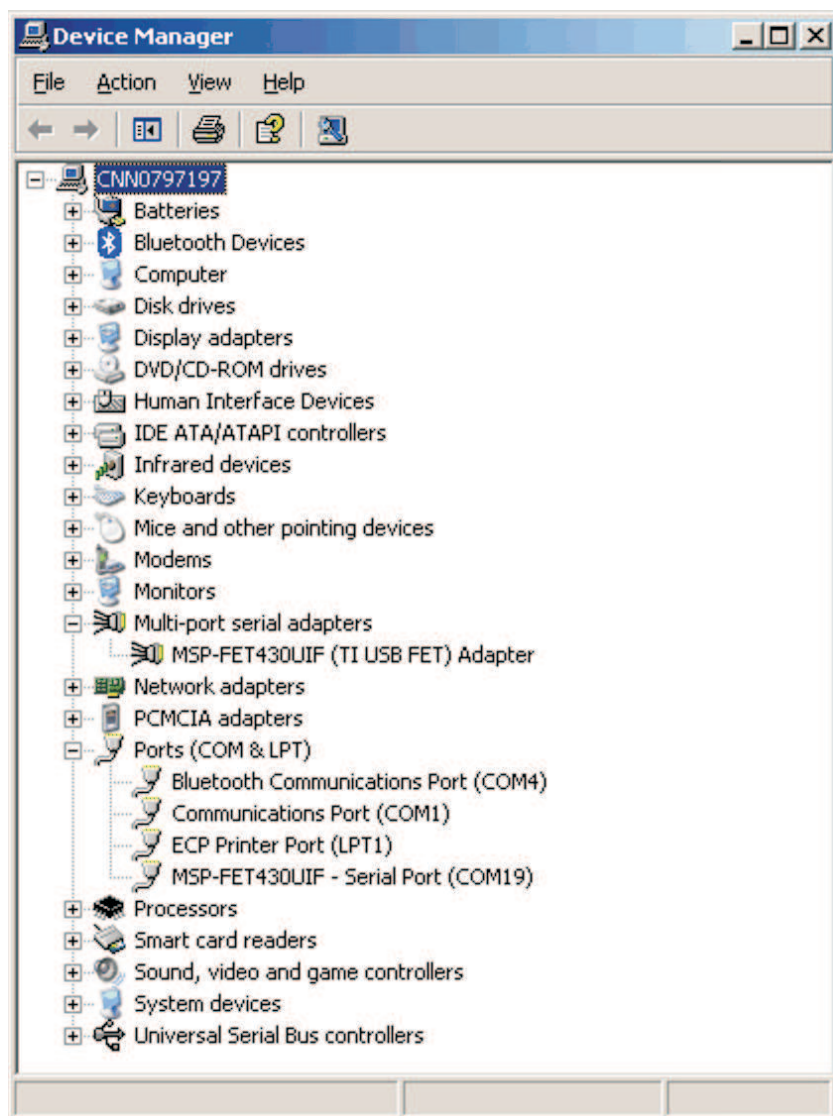
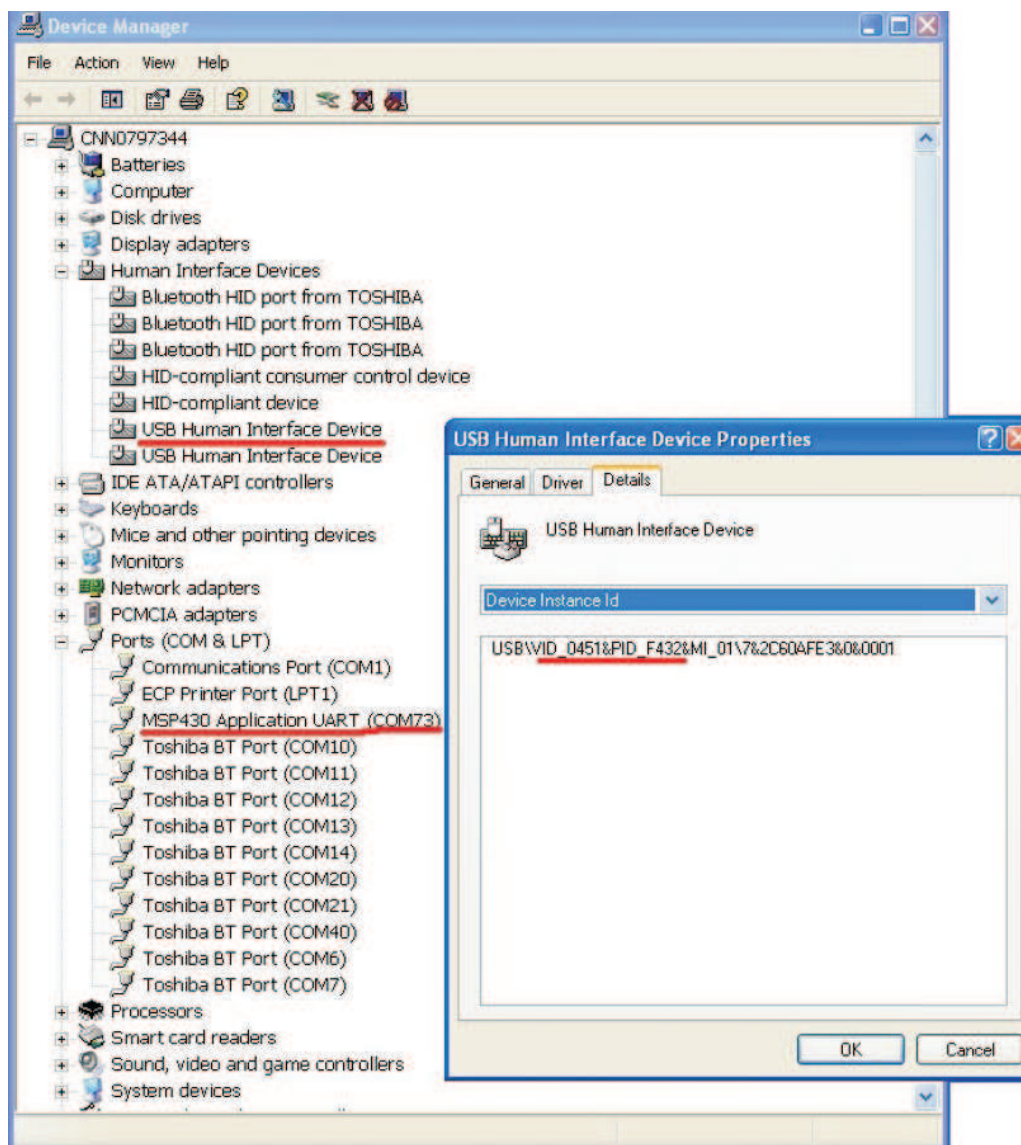

Figure F-5. Device Manager Using MSP-FET430UIF or MSP-eZ430-F2013
Figure F-6. Device Manager Using MSP-eZ430-RF2500
13. The USB debug interface is installed and ready to use. The Device Manager lists a new entry as shown in Figure F-5 or Figure F-6.